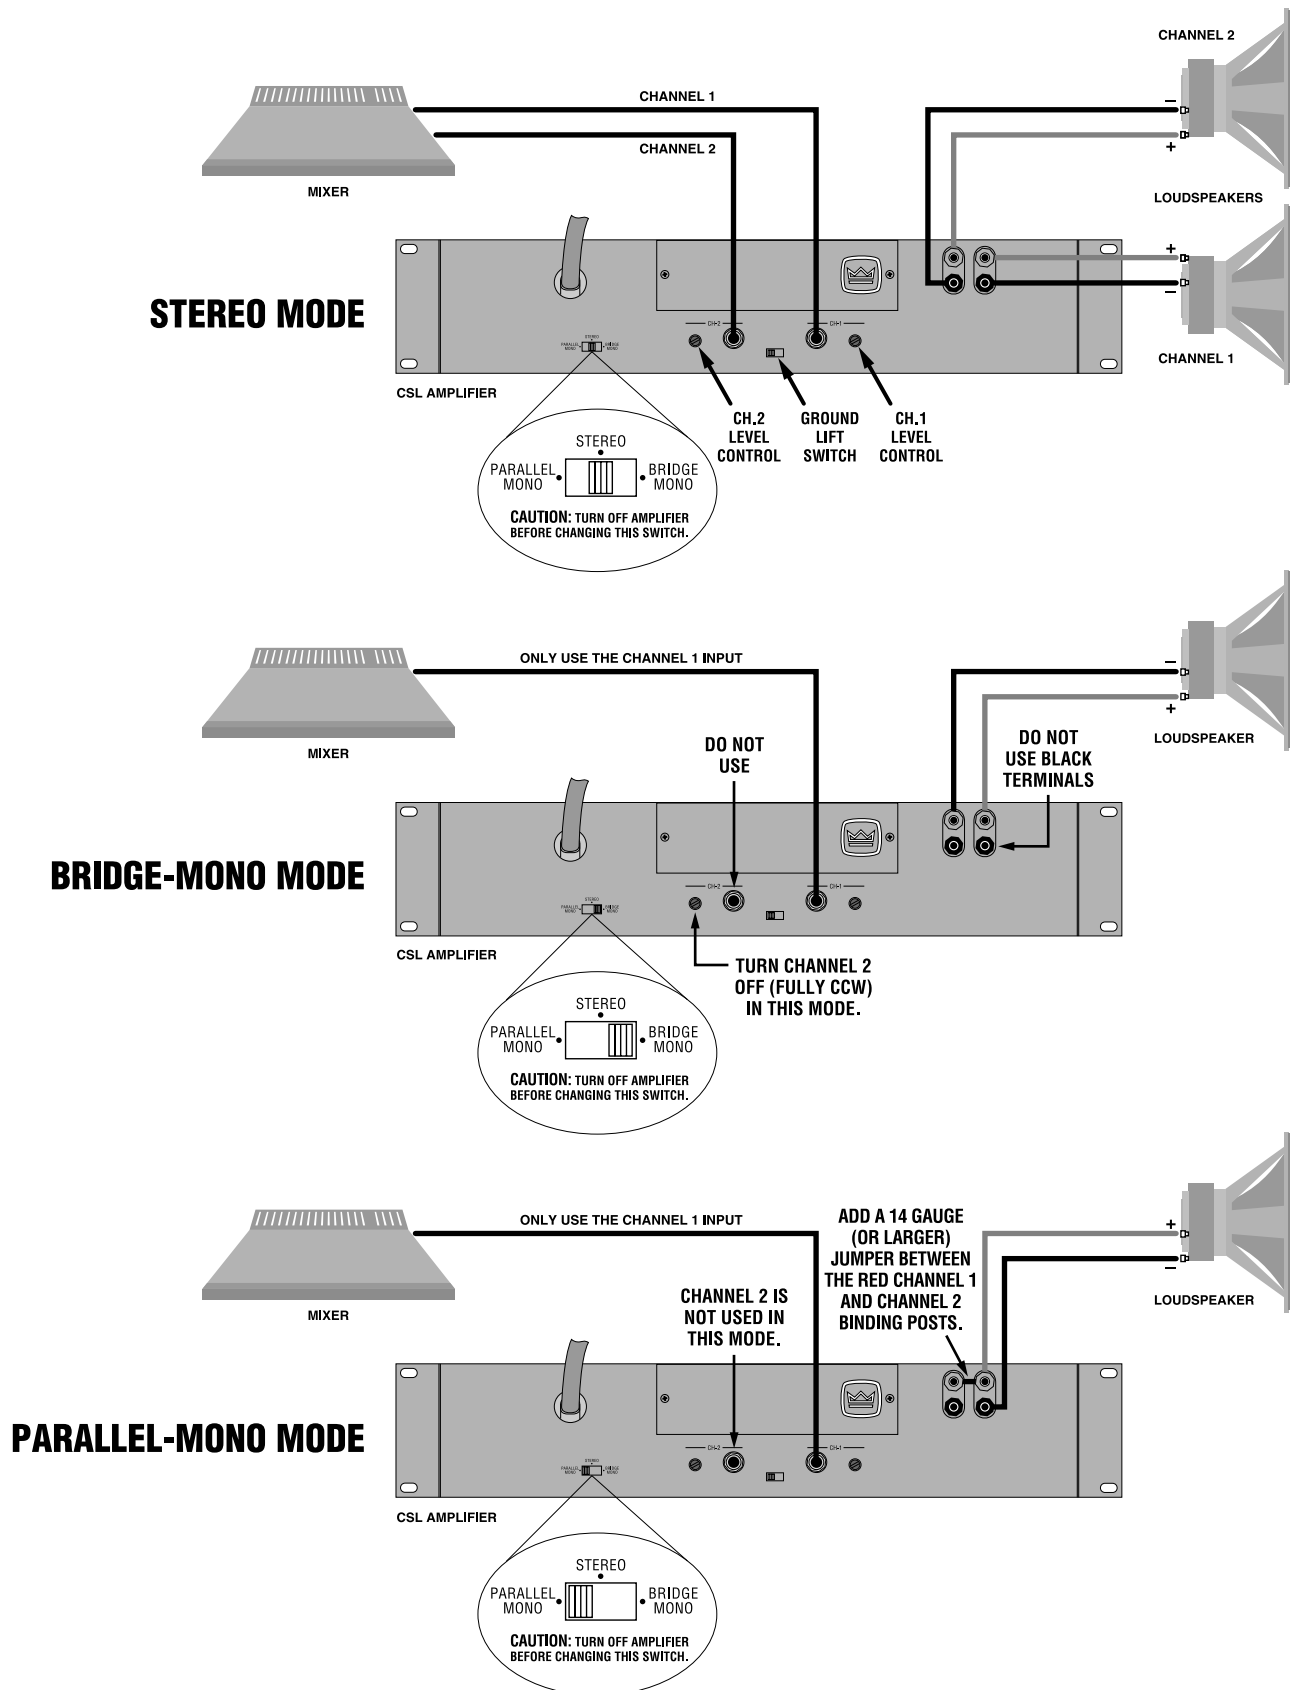

Fig. 2.3 Three System Connection Methods
4. Connect the input and output cables as shown in the first example in Figure 2.3.
4. Connect the input and output cables as shown in the second example in Figure 2.3. **Use the Ch.1 input only.**
4. Connect the input and output cables as shown in the third example in Figure 2.3. **Use the Ch.1 input only.**